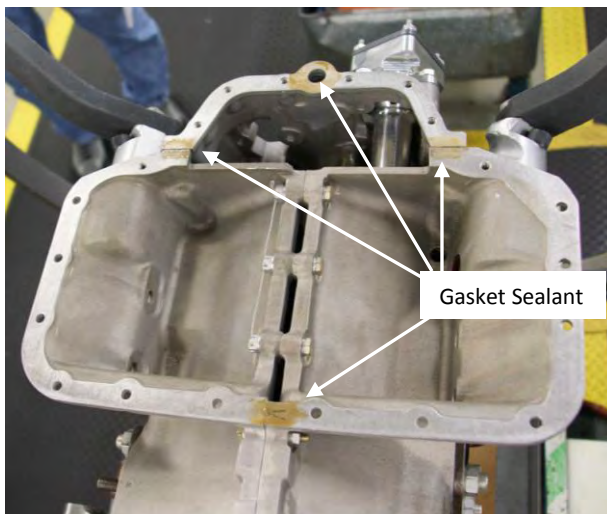

Figure 15
- D. Apply a dab of Gasket Sealant #4 (or equivalent) to four places in the split line between the accessory housing and crankcase where they mate with the oil sump (Figure 15).